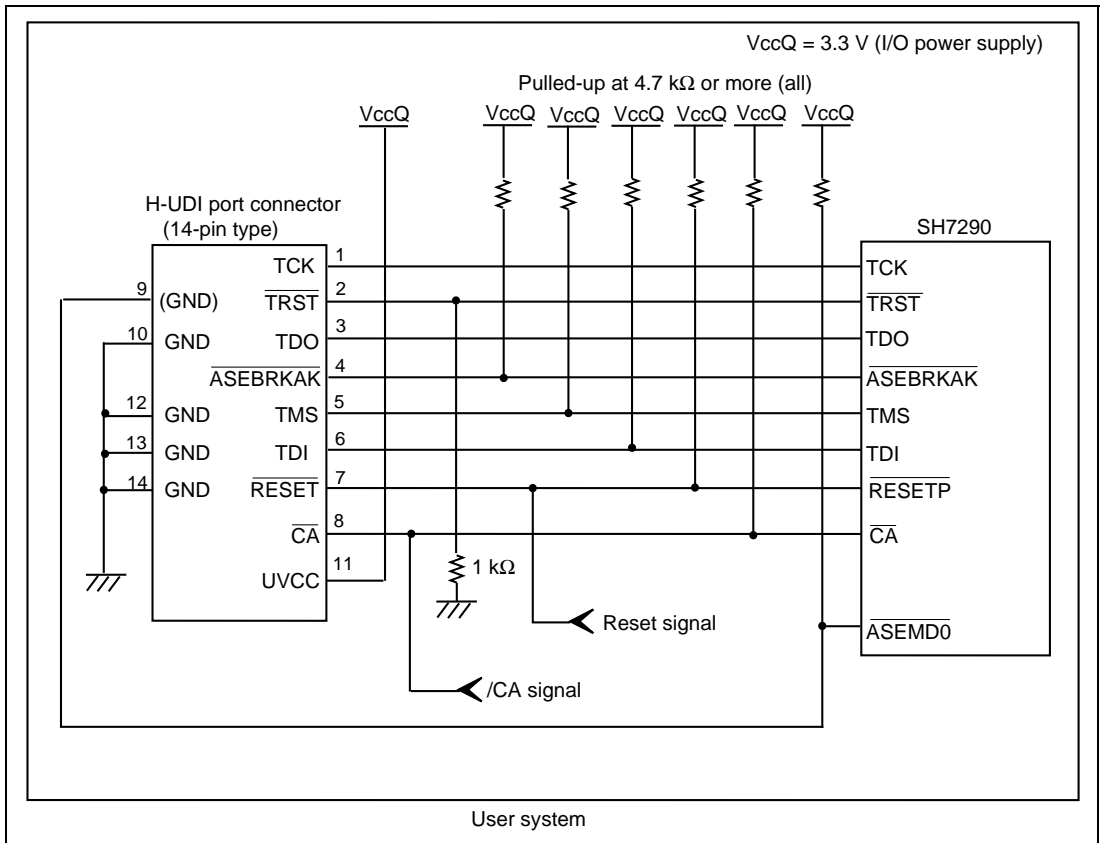

Figure 1.5 Recommended Circuit for Connection between the H-UDI Port Connector and MPU when the Emulator is in Use (14-Pin Type UVCC Connected)
Figures 1.5 and 1.6 show recommended circuits for connection between the H-UDI port connector (14 pins) and the MPU.
- (1) When the emulator is used: /ASEMD0 = 0 (ASE mode)
- (2) When the emulator is not used: /ASEMD0 = 1 (normal mode)Figures 1.5 and 1.6 show examples of circuits that allow the /ASEMD0 pin to be GND (0) whenever the emulator is connected by using the user system interface cable.
8. Supplying VccQ of the user system to the UVCC pin reduces the leakage current. A level shifter that is activated by the internal power supply or user power supply (changed by the switch) is installed in the interface circuit of the emulator. If the user power is supplied to the UVCC pin, the level shifter is not activated as long as no user power is supplied. When the power supply of the user system is turned off, no current flows from the user interface. The I/O voltage level of the user system interface can be the same as that of the VccQ. To operate the emulator with low voltage (lower than 3.3 V), the VccQ must be supplied to the UVCC pin. Make the emulator's switch settings so that the VccQ will be supplied (SW2 = 1 and SW3 = 1). With these settings, pin 11 is used as the UVCC pin. The /CA pin must be connected to pin 8 (as shown in figure 1.5).
When the circuit is connected as shown in figure 1.5, the switches of the emulator are set as SW2 = 1 and SW3 = 1. For details, refer to section 3.8, Setting the DIP Switches, in the Debugger Part of the SuperH™ Family E10A-USB Emulator User's Manual.